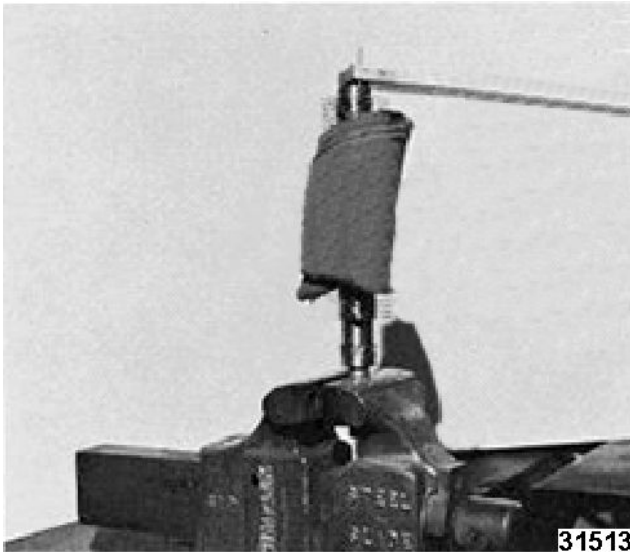

Fig. 13
2. Use an old stub shaft mounted in a vise as a base for the roller assembly. Use a spanner wrench (TL584) and remove the locknut from the end of the shaft (Fig. 13). The nut will remove clockwise on the front shaft and counterclockwise on the back shaft.